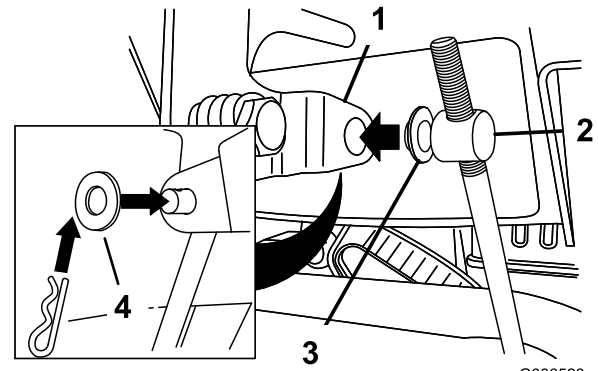

Figure 6
6. Lift up on the speed control rod and insert the trunnion into the hole in the speed selector lever (Figure 6).
3. Remove the hairpin cotter and the outer washer from the trunnion on the upper end of the speed control rod (Figure 6).
- B. Disconnect the trunnion from the speed selector lever (Figure 6).
- C. Turn the trunnion upward (counterclockwise) on the speed control rod (Figure 6).
- D. Connect the trunnion to the speed selector lever (Figure 6).